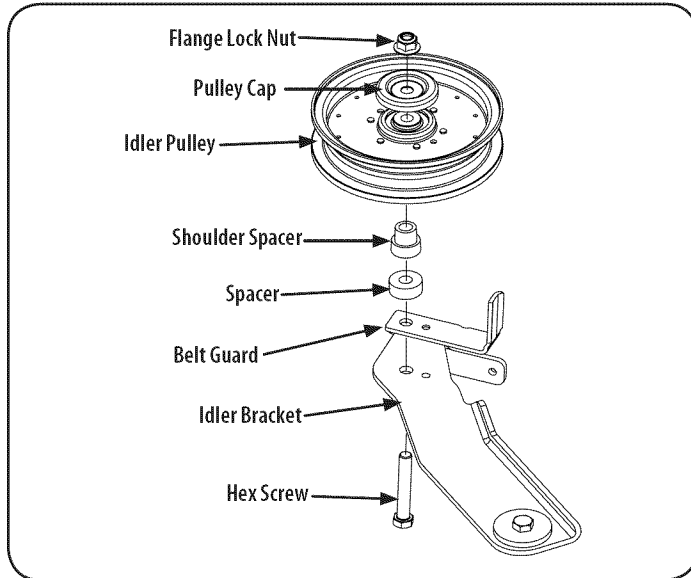

Figure 36
3. Remove the movable idler pulley and belt guard by removing the hex screws, pulley cap and flange lock nuts that secure them the idler arm. See Figure 36. Do not lose any of the hardware when removing the hex screw, belt guard, pulley cap and flange lock nut.
6. Place the belt around the idler pulleys removed in step 3 with the "V" side facing in. Once in place, reinstall all the hardware and tighten the flange lock nut to secure the assembly. See Figure 36.
7. Route the belt as shown in Figure 36 and then reinstall the deck (refer to Deck Installation).